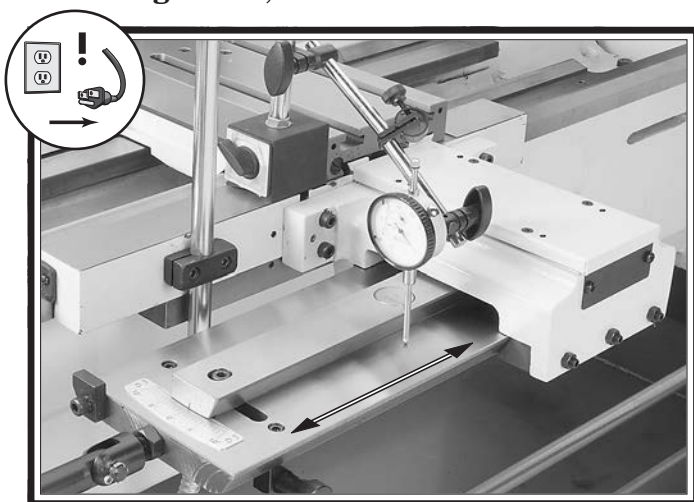

Figure 21. Taper attachment alignment.
31. Mount the dial indicator magnetic base on top of the saddle so that the indicator needle is resting on the attachment table, as shown in **Figure 21**, then zero the indicator.